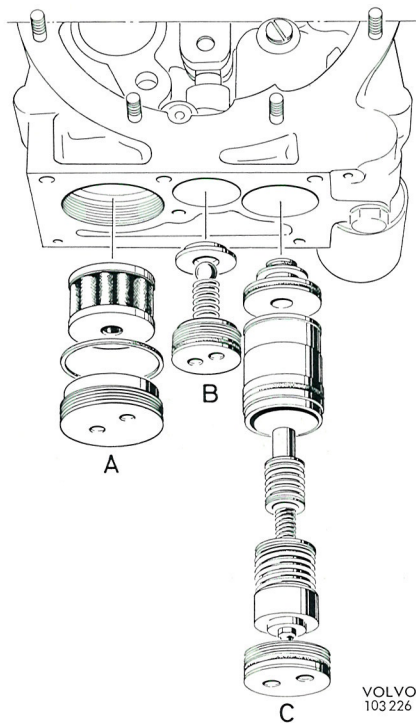

Fig. 4-67. Fitting the fine filter, oil pump check valve and relief valve
1. Fit the fine filter. Also fit the relief valve parts in the following order: End washer, cylinder, small piston, low-pressure spring, large piston and plug, see Fig. 4-67.